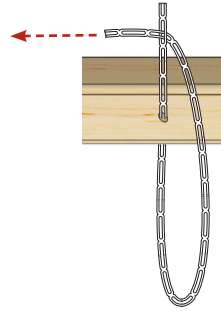

FIGURE 11: ATTACH APRON CORDS TO BEAMS
12. Attach apron cords to the cloth and warp beams: Insert one end of a cord into a hole in the warp or cloth beam. (You can use a straightened paper clip to push the cords through.) Place the other end of the cord through the first complete loop in the cord and pull it tight around the beam (Figure 11). Repeat for all the holes in the warp and cloth beams.